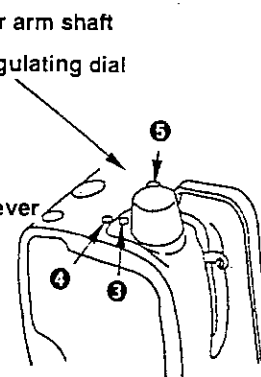
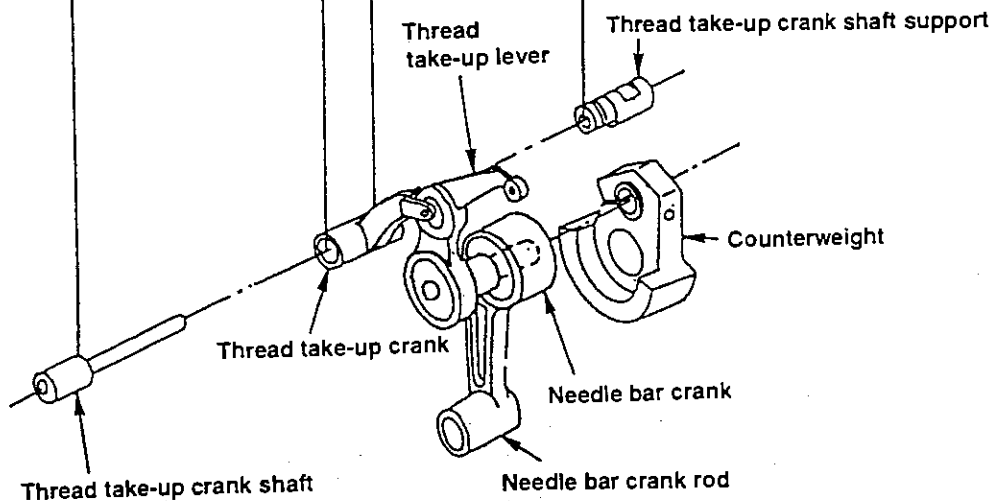

Fig. 3
Fig. 4
<p>I . Needle entry in the needle slot of the feed dog in the lateral direction</p> <ol style="list-style-type: none"> 1. Set the dial to adjust the amount of alternating vertical movement of the walking foot and presser foot to "1" on the scale. 2. Remove the top cover. 3. Set the stitch dial to max. on the scale. 4. Loosen the screw in the reverse feed cylinder. 5. Remove the reverse feed cylinder. 6. Remove the side plate. 7. Loosen screw ① in the needle bar connecting rod. (Fig. 1) 8. Loosen screw ② in the thrust collar of the needle bar frame driving shaft. (Fig. 1) 9. Remove the presser spring regulating dial. (Fig. 2) 10. Loosen screw ③ in the presser spring adjusting arm shaft. (Fig. 3) 11. Remove the presser spring regulator. (Fig. 2) 12. Remove the presser adjusting arm. (Fig. 2) 13. Remove the presser spring regulating arm shaft. (Fig. 2) 14. Loosen screw ④ in the thread take-up crank shaft. (Fig. 3) 15. Loosen screw ⑤ in the thread take-up crank shaft support. (Fig. 3) 16. Draw out the thread take-up crank shaft. (Fig.4) 17. Remove triangular lever shafts ⑥ and ⑦. (Fig. 2) 18. Adjust the needle entry 19. Tighten screws ② of the thrust collar. (Fig. 1) 20. Adjust the position of the thread take-up crank shaft support in accordance with the position of the thread take-up crank. 21. Tighten screw ⑤ in the thread take-up crank shaft support. (Fig. 3) 22. Put the thread take-up crank shaft in the thread take-up crank until the shaft reaches the end face of the thread take-up crank. (Fig. 4) 23. Tighten screw ④ in the thread take-up crank shaft. (Fig. 3) 24. Attach the triangular lever shafts ⑥ and ⑦ in place. (Fig. 2) 25. Attach the presser spring regulating arm in place. 26. Attach the presser spring regulating arm shaft in place. 27. Tighten screw ③ in the presser spring regulating arm shaft. (Fig. 3) 28. Attach the presser spring regulator in place. 29. Attach the presser spring regulating dial in place. 30. Set the stitch dial to "0" on the scale. 31. Adjust the needle entry in the needle slot of the feed dog in the feeding direction. 32. Tighten clamping screw ① in the needle bar connecting rod. (Fig. 1) <p>(Caution) Tighten the screw with a tightening torque of 80 to 90 kgf.cm.</p> <ol style="list-style-type: none"> 33. Attach the side plate in place. 34. Attach the reverse feed cylinder in place, and tighten the screw in it. 	<ol style="list-style-type: none"> 17 Tilt the triangular lever, which is set free, toward the presser bar lifting lever. At this time, eliminate a thrust play at the needle bar frame driving shaft and tighten the screw while oscillating the needle bar frame toward the operator. 20 At this time, adjust so that their end faces come in slight contact with each other while providing no play between them by moving the thread take-up crank shaft support. 21 Tighten the screw while making the contact point of the thread take-up crank shaft support and the screw straight up. 31 Refer to the item of "Needle entry in the needle slot of the feed dog in feeding direction" on page 9. 32 At this time, fluctuate the needle bar connecting rod to the right or left until the needle bar connecting rod is placed approximately at the center of the play, and tighten the clamping screw.